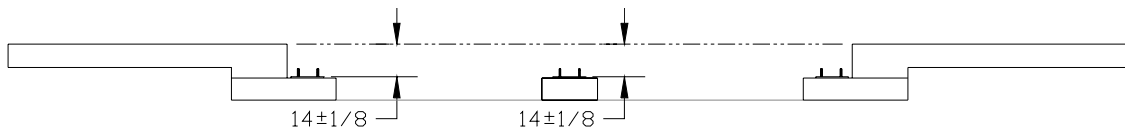

Figure 8 - Pile Caps with Installation Pad
1. The elevation of the installation pads is therefore fixed when the concrete is poured. The elevation of the pads should now be rechecked. Measure the elevation from the top of the installation pads, using a transit, relative to the top of the approach ramps and to each other. Make sure that the height from the pads to the top of the ramps is $14'' \pm 1/8''$ (See Figure 8).